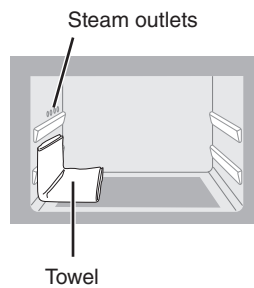

Figure 2
- 2 Place a folded towel under the steam outlets as shown in Figure 2.
- 5 When the oven has stopped, wipe oven cavity, then wring the towel and put it again as shown in Figure 2. Remove water tank, empty, rinse and refill with water over the 1 mark. Replace the water tank.